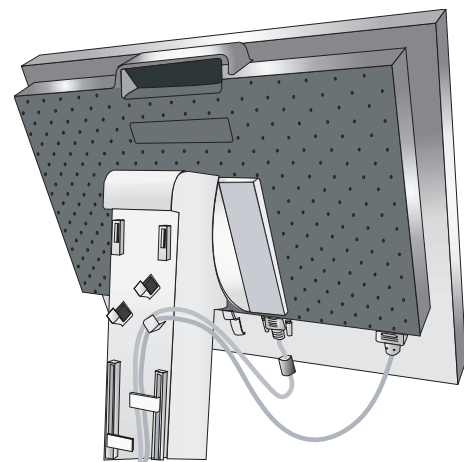
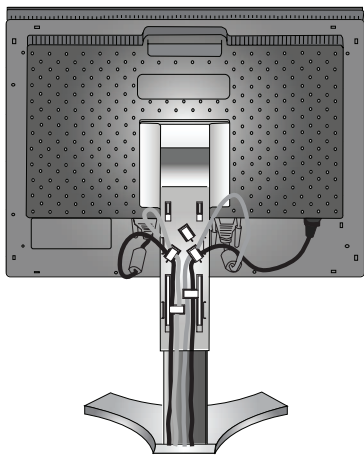
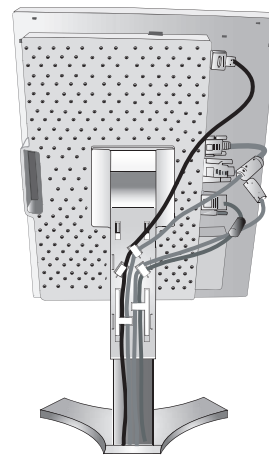

Figure C.2
Figure C.3
Figure C.4
5. To keep the cables neatly organized, place them into the cable management system that is built into the stand. Place the D-Sub cable (not included for Europe) and the power cable into the specific hooks as indicated (**Figure C.2**). Place the DVI cable and the 15-pin mini D-Sub to DVI-A cable into the hooks as indicated (**Figure C.3**). When using the monitor in Portrait mode, place the DVI cable and the 15-pin mini D-Sub to DVI-A cable into the hooks as indicated (**Figure C.4**).
6. Make sure all cables are resting flat against the stand (**Figure C.3**). Please check Tilt, Rise and Lower monitor screen and screen rotation when you manage cables.